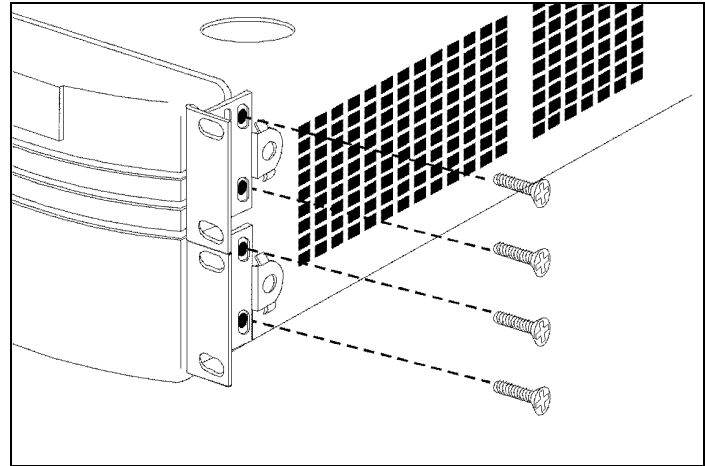

Figure 2-1 Attaching mounting brackets to the Enterprise Monitor
- 3 Attach two mounting brackets to each side of the probe using appropriate screws (supplied) as shown in Figure 2-1.